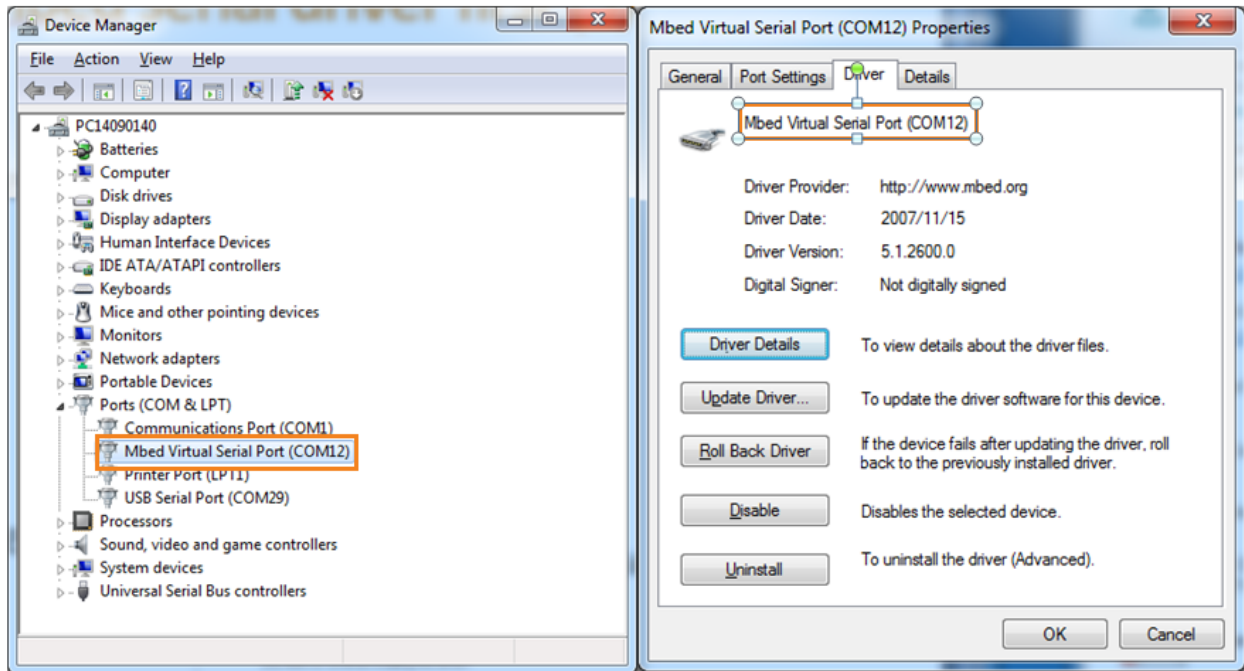

Figure 30. Installing the UART driver
- 4) In **Device Manager**, navigate to **Ports (COM & LPT)** (see Figure 30).